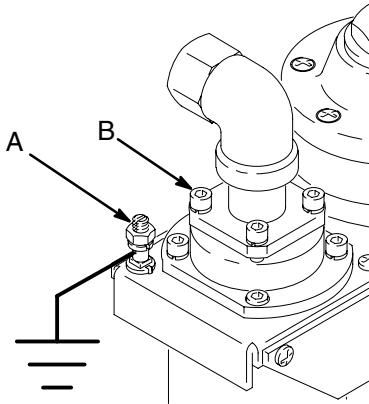

Fig. 1
NOTE: Reference numbers and letters in parentheses in the text refer to the Parts Drawing, Fig. 1 and Fig. 2.
Connect one end of the ground wire (A) to the agitator's ground connector (B). See Fig. 1. Connect the other end of the ground wire to a true earth ground. Order Part No. 237569, Ground Wire and Clamp.